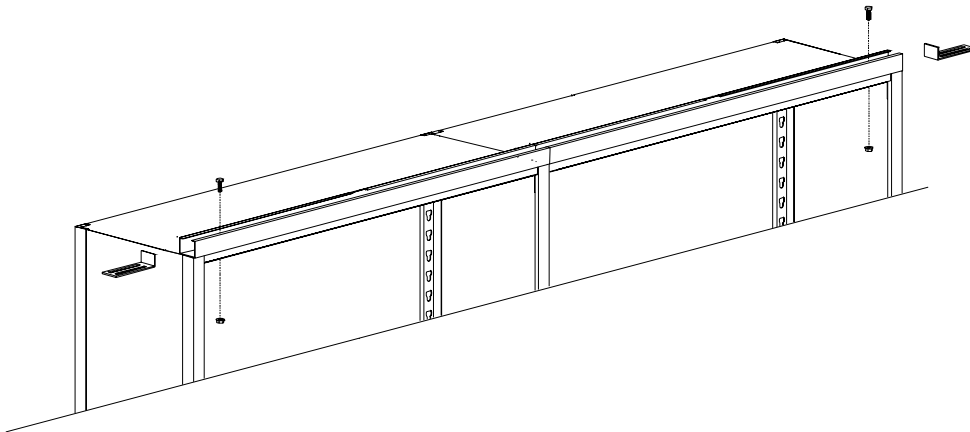

FIGURE 9
- STEP 1.2** If the system has more than one static carriage, remove one (1) $\frac{1}{4}$ -20 x $\frac{3}{4}$ hex head bolts from the far left and far right sides of the Stationary Top Channels. Insert Top Safety Stops to each end of the Stationary Top Channels. Re-install and tighten the $\frac{1}{4}$ -20 x $\frac{3}{4}$ hex head bolts. **See Figure 9.**
- STEP 2** Peel protective backing on adhesive on two (2) Rubber Bumper squares. Adhere to Bumpers to each Side to Side Carriage. One pair of Bumpers is needed for between Carriages.